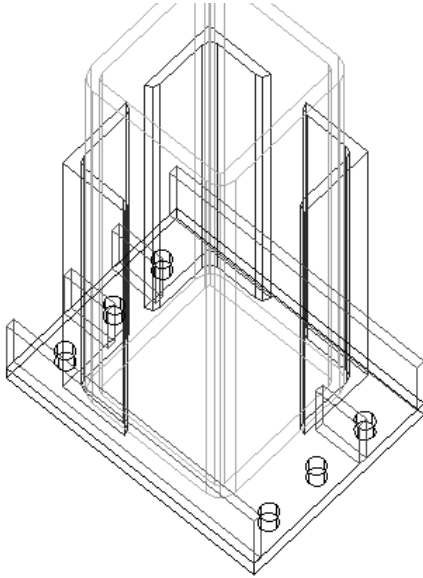

**Figure 24-40:** The sidebar has been aligned with the rest of the model.
5. AutoCAD aligns the sidebar. Save your drawing. It should look like Figure 24-40.